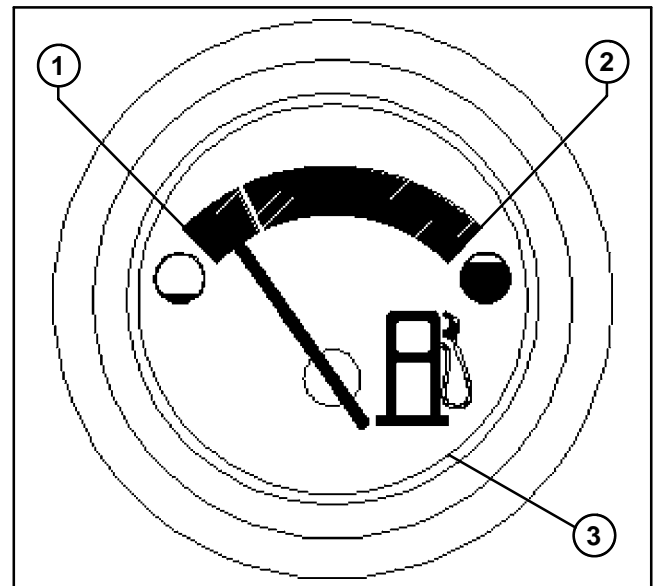

Figure 47
4. Take test point readings (Fig. 47).